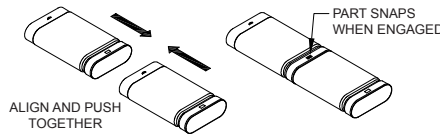

**FIGURE 4**
- If the installation requires two appliances to terminate into a common B-Vent, a B-Vent wye or tee is used. It is recommended that the higher output appliance, normally the furnace, insert into the bottom of the wye or tee and the other appliance attach to the top. To minimize the length of run and to provide maximum flexibility in these installations, a swivel tee (MST) or swivel wye (MSY) is used. These components provide 360 degrees of rotation to position the tap in the proper orientation (See **FIGURE 4**).